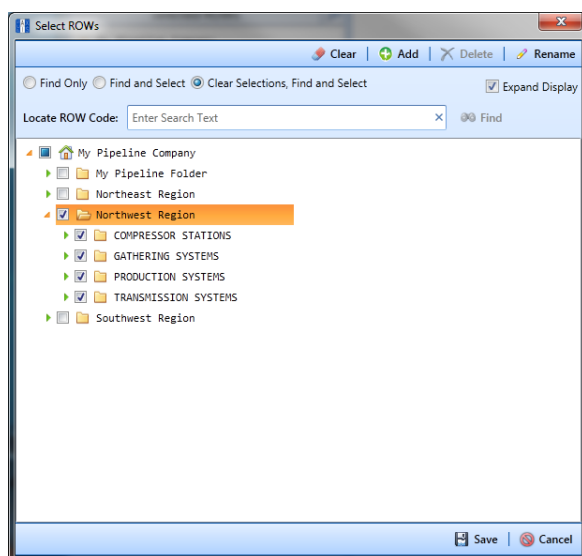

Figure 3-1. Select ROWs
The hierarchy is an organizational structure of one or more folders. Folders are organized in a tree structure based on the number of hierarchy levels set up in the system. The top level of the hierarchy is the root level that identifies your company's name. All hierarchy folders are added below the root level. The lowest level of the hierarchy includes a folder with pipelines added in the system (Figure 3-1, page 90).
- 1 Click **File > Select ROWs** to open the *Select ROWs* window (Figure 3-1).